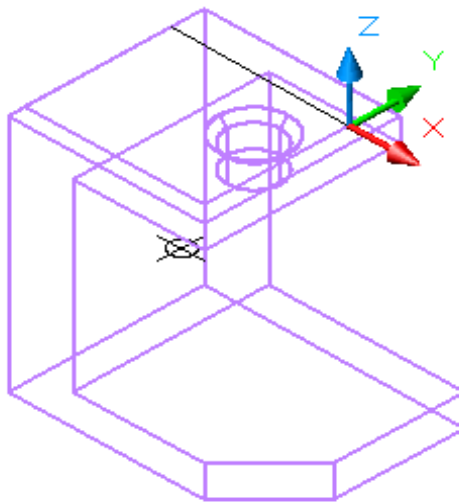

Figure Step 13
Step 13 Locate the Top UCS at the end of the line (Figure Step 13)